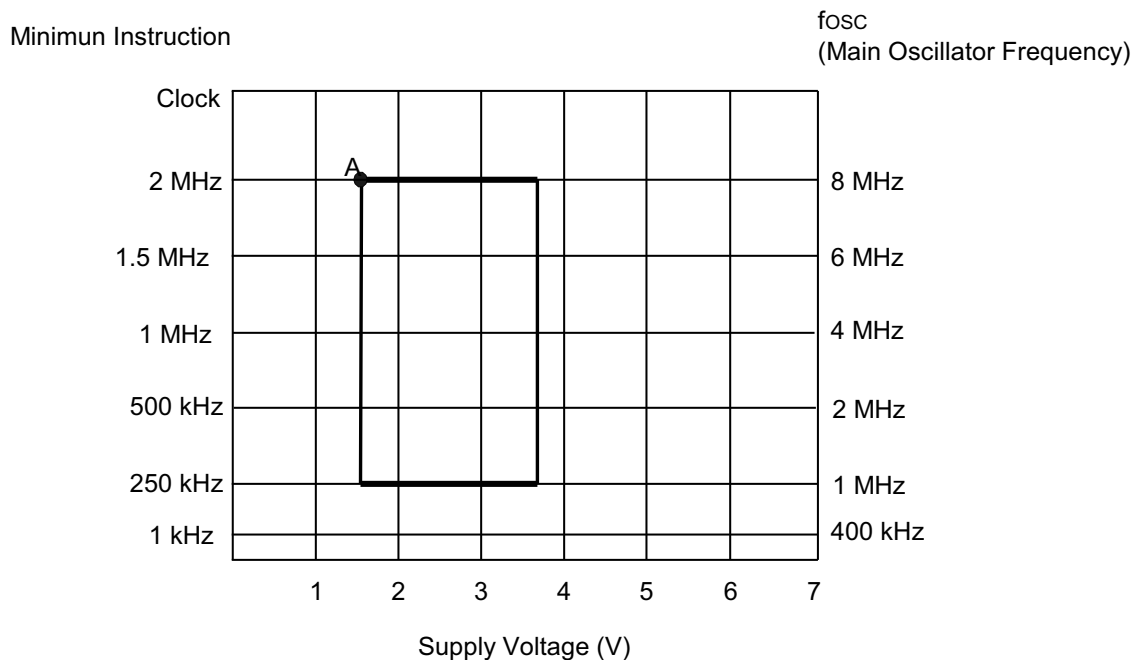

Figure 97. Operating Voltage Range
► **Note:** In Figure 97, the minimum instruction clock = $1/4n \times$ oscillator frequency, in which $n = 1, 2, 8,$ or 16 ; A = 1.65 V at 8MHz.